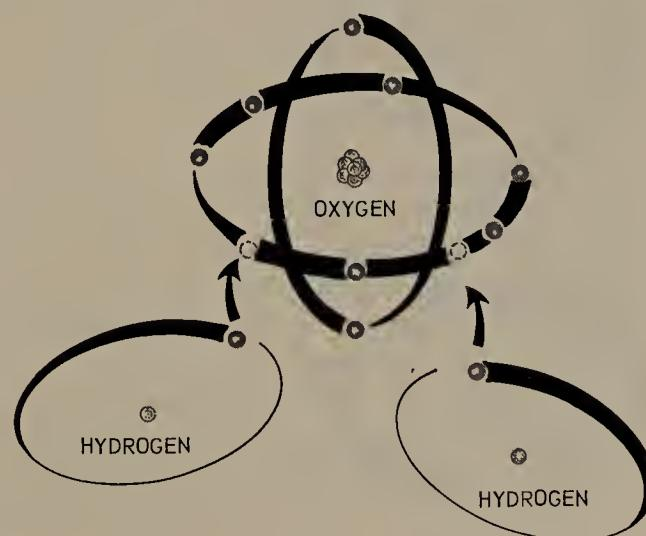

FIGURE 2.5 One atom of oxygen uniting with two atoms of hydrogen to form a molecule of water, or H_2O .
2.6 Chemical Reactions. When two or more atoms link up, or combine, they form a molecule. The linking-up process is called chemical reaction. For example, two atoms of hydrogen and one atom of oxygen react to form one molecule of water (Fig. 2.5). Water has the chemical formula H_2O , which means each molecule has two atoms of hydrogen and one atom of oxygen. When one atom of sodium (chemical symbol Na) unites with one atom of chlorine (chemical symbol Cl), a molecule of common table salt is formed (NaCl). Another example is sugar, each molecule of which has 12 atoms of carbon, 22 atoms of hydrogen, and 11 atoms of oxygen and the chemical formula $C_{12}H_{22}O_{11}$.